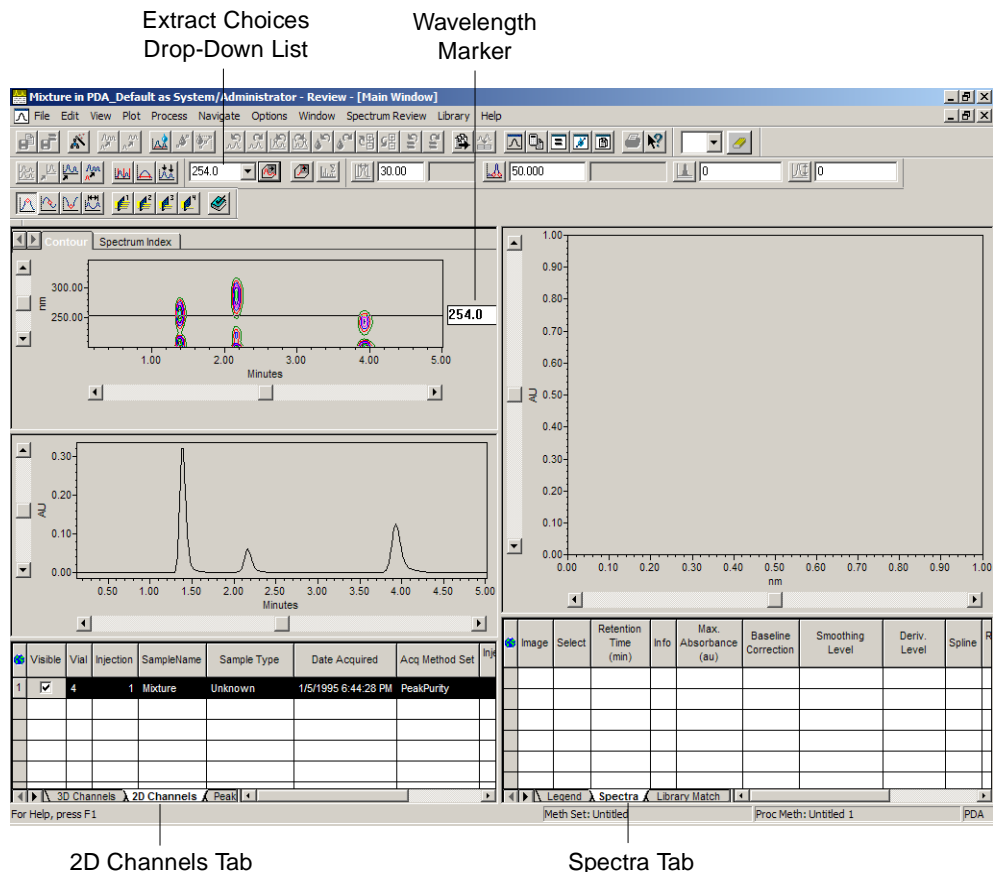

Figure 2-11 Extracted Chromatogram at Wavelength 254 nm
1. With the PDA data displayed in Review, select **254.0** from the **Extract Choices** list to display a wavelength marker and an extracted 254.0-nm chromatogram in the chromatogram plot (Figure 2-11).